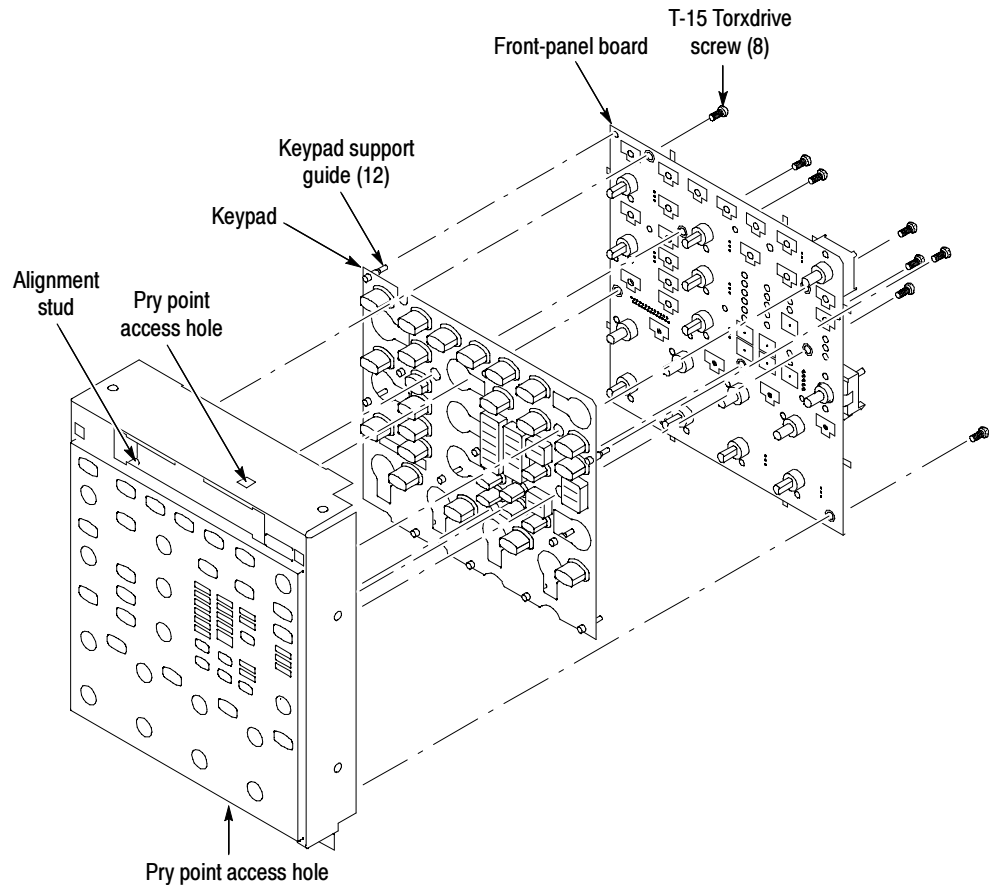

Figure 5: Front-panel board and keyboard assembly
2. *Remove the Front-panel board:* See Figure 5, page 10.
Install the Front-panel keypad: See Figure 5.